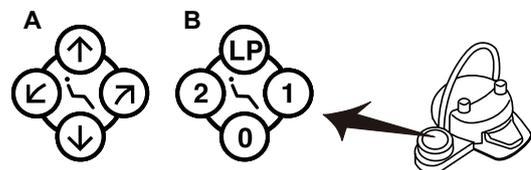

Fig.3-34 Foot Switch
#### (3) Foot Switch (Optional) (Fig.3-34)